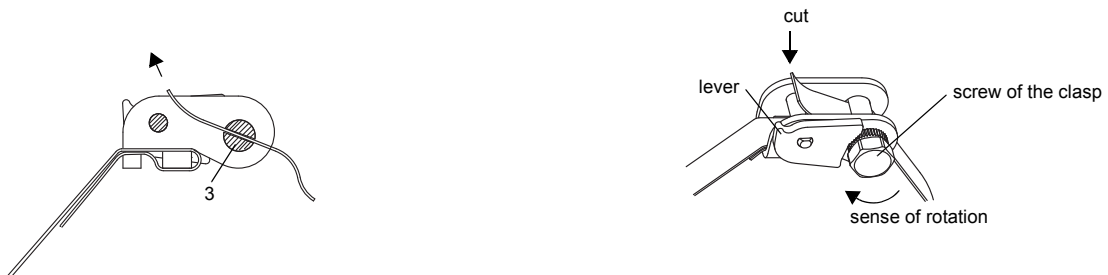

Fig. 8.39: Ratchet clasp with tension strap
- Insert the long end of the tension strap into part 3 of the ratchet clasp (see Fig. 8.39).
- Cut off the protruding tension strap (see Fig. 8.39).
Note! To release the screw and the tension strap press the lever down (see Fig. 8.39).